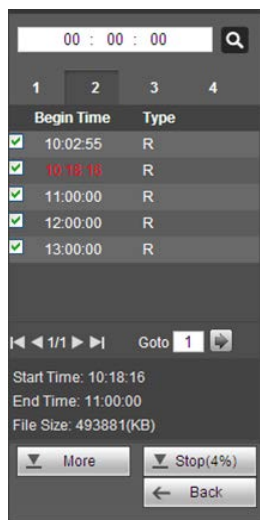

Figure 4-8
- Select the file(s) you want to download and then click **Download** button. A dialog as shown in Figure 4-8 appears. The Download button becomes the Stop button and a process bar appears. Go to the default file saved path to view the files.